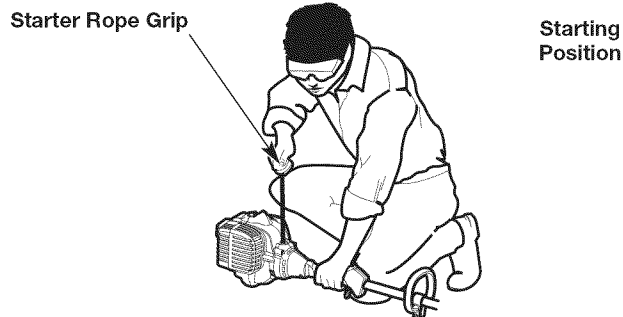

Fig. 8
WARNING: Avoid accidentally starting the unit. To avoid serious injury, the operator and the unit must be in a stable position when pulling the starter rope (Fig. 8).
5. **DO NOT** squeeze the throttle control. Crouch in the starting position (Fig. 8).
6. **DO NOT** squeeze the throttle control. Pull the starter rope with a controlled and steady motion until the unit starts (Fig. 8).